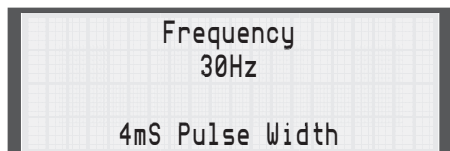

Fig. 5.24
3. Press the Freq. key and use the Arrow keys to scroll to the desired waveform frequency and then press the Enter key (**Fig. 5.24**).